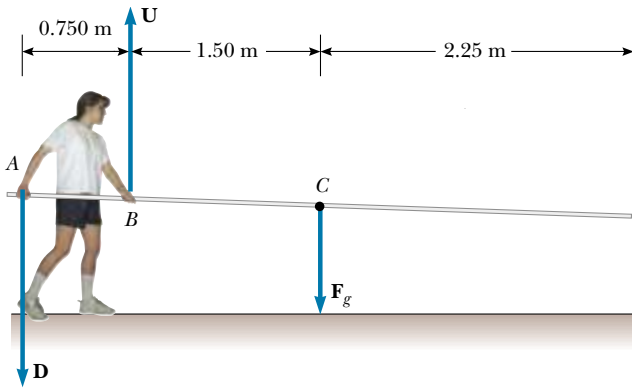

Figure P12.23
23. A vaulter holds a 29.4-N pole in equilibrium by exerting an upward force \mathbf{U} with her leading hand and a downward force \mathbf{D} with her trailing hand, as shown in Figure P12.23. Point C is the center of gravity of the pole. What are the magnitudes of \mathbf{U} and \mathbf{D} ?